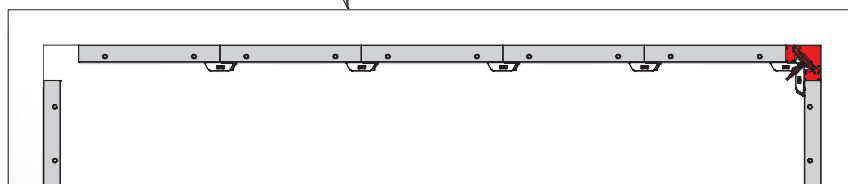

Fig. 31.4
3. Lift the stripping corners off, then strip the panels (Fig. 31.4).